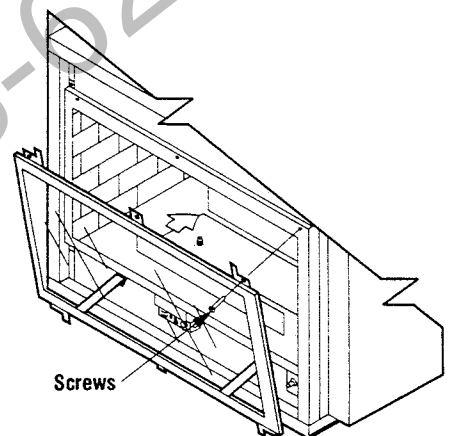

Figure 54
Position the door frame in front of the firebox opening, with the joint in the gasket at a lower corner (Figure 54). Locate the three (3) tabs at the bottom edge of the door frame into the three (3) brackets at the base of the fireplace front opening. Lean the door frame back towards the fireplace ensuring that the gasket seats evenly as the door frame draws shut. Install the three (3) $\frac{1}{4}$ "-20 x 1" Phillips pan head screws removed previously and tighten to secure. Ensure that the tab on the bottom of the door frame engages the door switch.